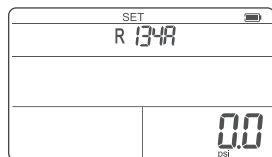

Fig. 8 Pressure unit setting
3. Press **MODE**, then press the arrows **◀** and **▶** to select the pressure unit (Figure 8)